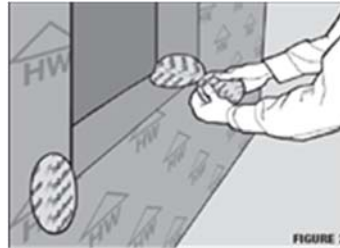

Figure 2
2.1.1 Remove backing from pre-cut OSI QUAD Window & Door System corner guard and position a guard at each jamb and sill intersection so that ½ of the guard is covering the flat sill and jamb and the remaining half is pulled out over the exterior sheathing (Figure 2).